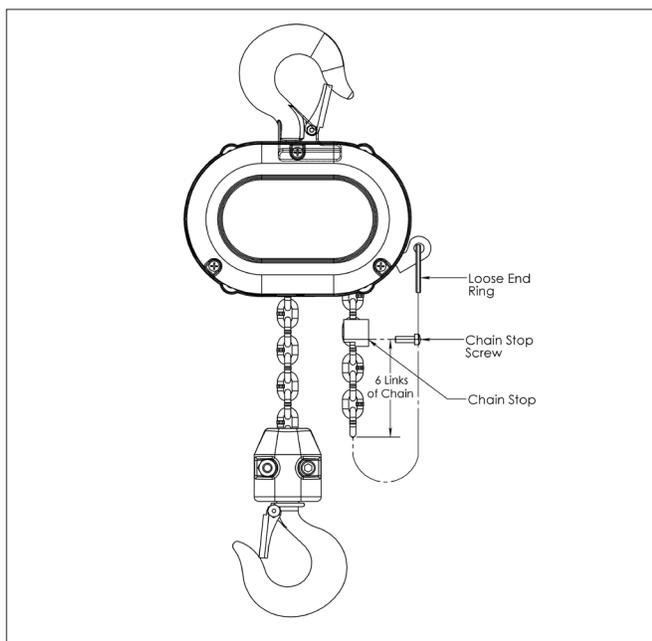

Figure 18 – Chain Stop
4. Jog the UP push button while pulling on the free end of wire until the chain comes out of the hoist. Remove the wire and attach the chain stop as shown in Figure 18. On units with chain container, place chain stop and loose end of chain in chain container. Attach chain container to chain guide.